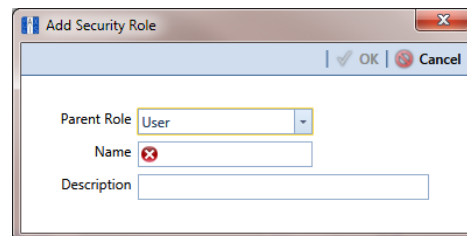

Figure 3-17. Add Security Role
- 2 Click **+ Add** to open the *Add Security Role* dialog box (Figure 3-17).